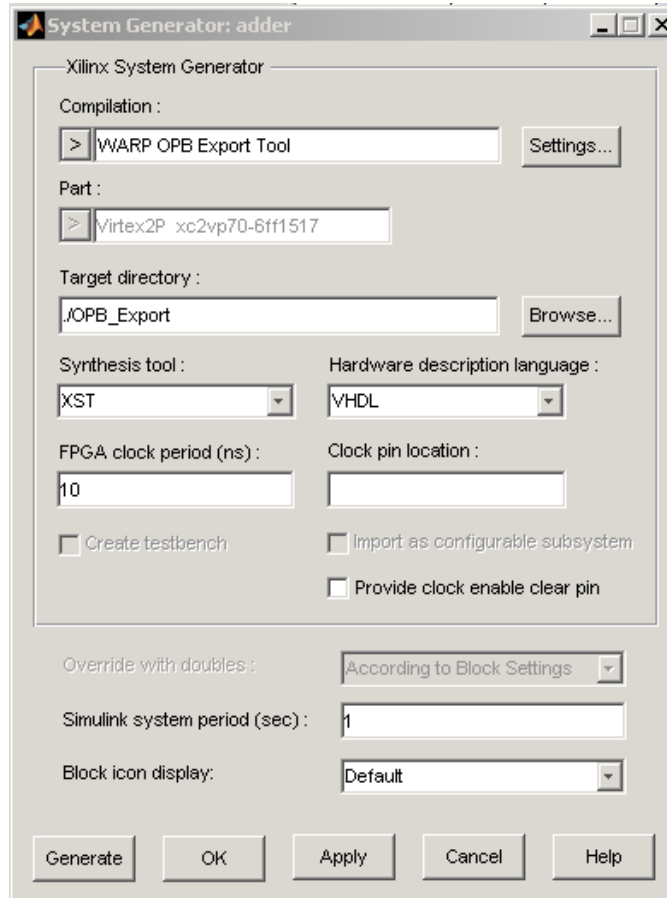

Figure 1: System Generator parameters for OPB core generation
12. Double click on the System Generator icon within the model. Verify that the System Generator parameters match those in Figure 1.